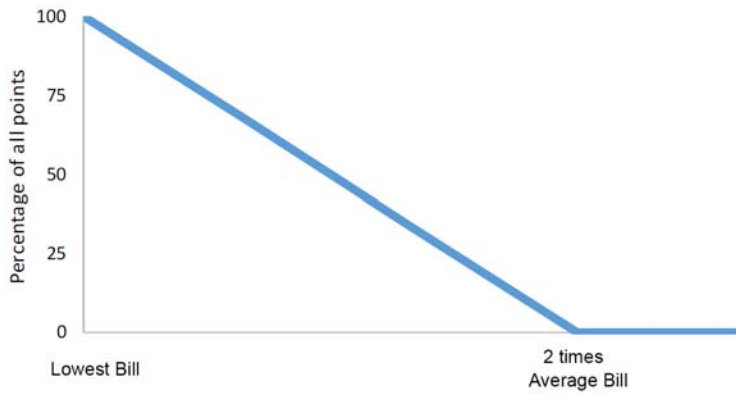

Figure 6: Demand response sub-contest points' distribution
- b) Reduced points are earned for the houses with bills between the lowest bill and twice the houses' average bill. Reduced point values are scaled linearly, as shown in Figure 6.